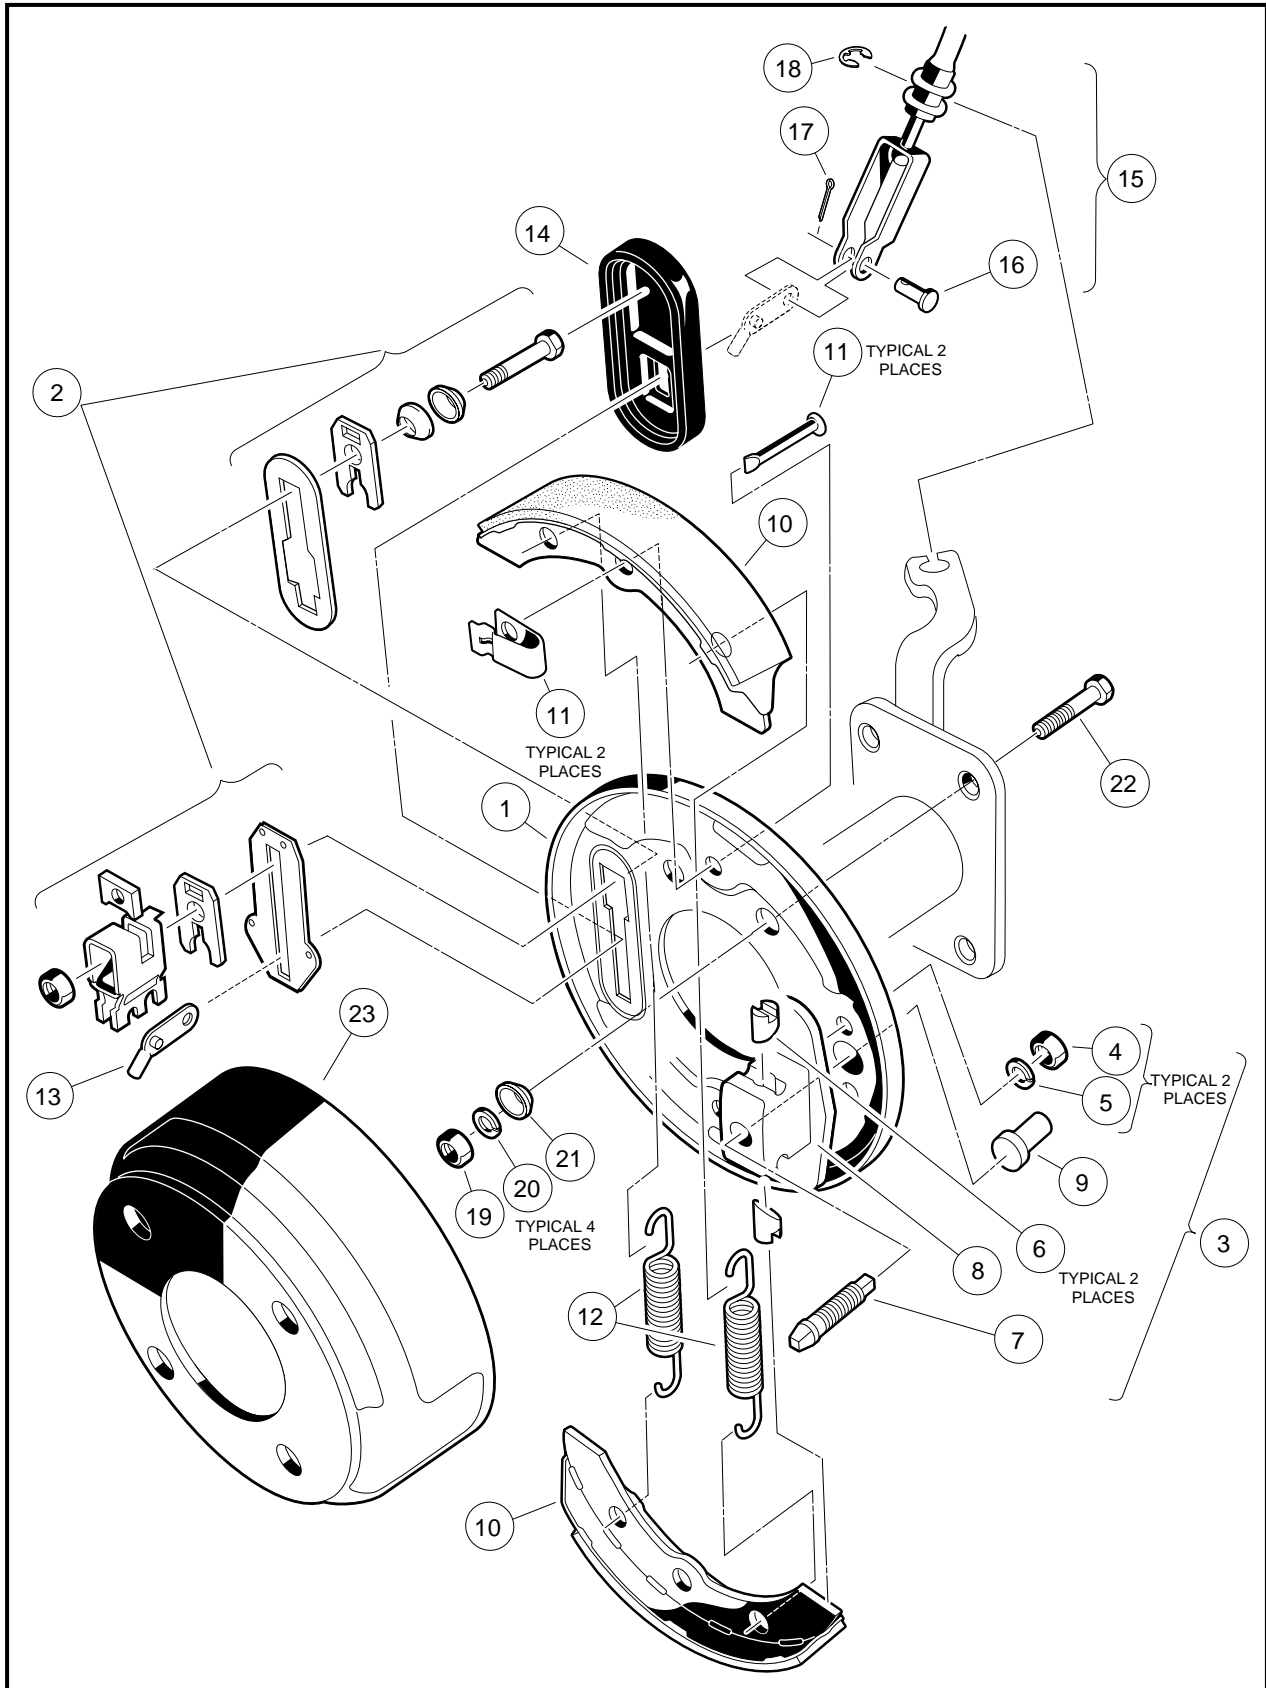

Figure 6-15 Front Manually Adjusted Brake Assembly
NOTE: Components of the front wheel brake assembly are identical to the rear wheel manually adjusted brake assembly. The front brake assembly is rotated 90° (when compared to the rear brake assembly) so the adjusting bolt on each assembly is oriented to the rear of the vehicle rather than at the top of the assembly (**Figure 6-15, Page 6-8**).
5. Remove cotter pin (17) and clevis pin (16) from brake cable (**Figure 6-15, Page 6-8**).
8. Remove hub and bearing assembly from spindle shaft. Remove four bolts (22), cone washers (21), lock washers (20) and hex nuts (19) that mount the brake assembly to the spindle (**Figure 6-15, Page 6-8**).
1. Install in reverse order of disassembly. Use bolts (22), new cone washers (21), lock washers (20) and hex nuts (19) to mount brake assembly (**Figure 6-15, Page 6-8**).